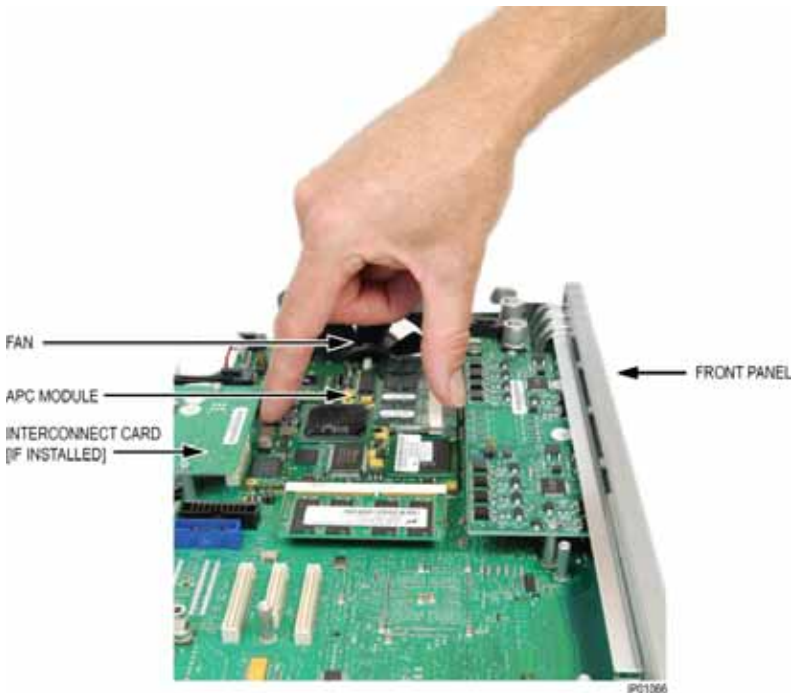

Figure 55: Seat APC Module Connectors onto Main Board Connectors
3. Place the APC module on the main board connectors. The connectors are spaced irregularly to assist in alignment. Orient the module as show in Figure 55.